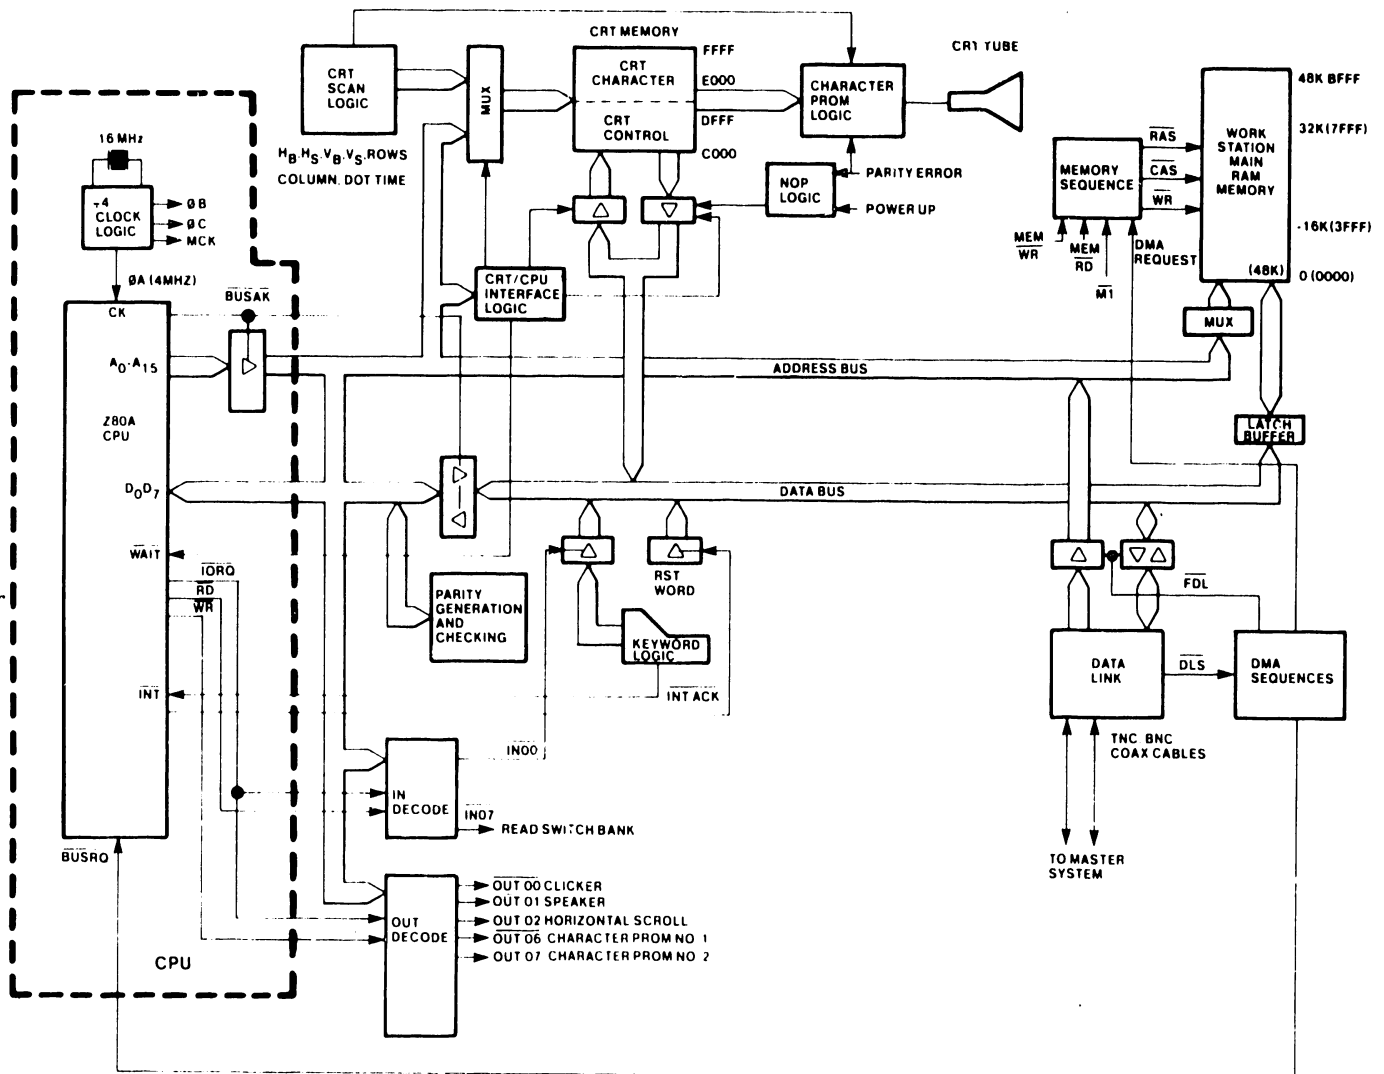

Figure 2-6 Z-80 CPU
2.2.4.10 Z-80A CPU (Figure 2-6)